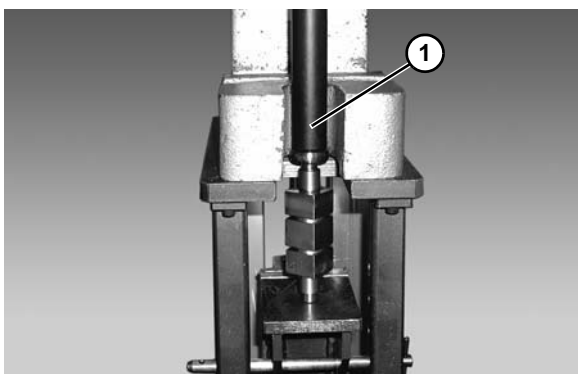

Figure 43
2. Press new bearing onto drive pulley using installation tool 450293 (**Figure 43, item 1**).